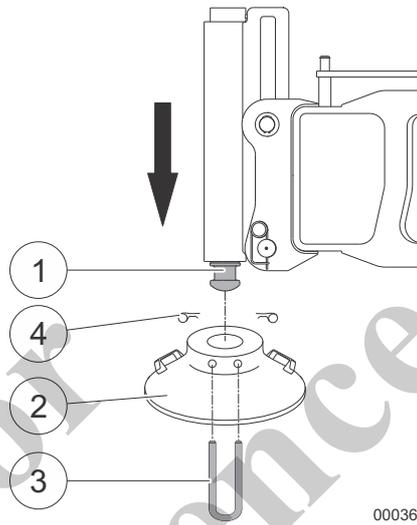

Fig. 145 Attaching the outrigger pad
- 5 Remove the outrigger pads (2) in from the track wheel carriers and place them under the outrigger cylinders (1) in Fig. 145.